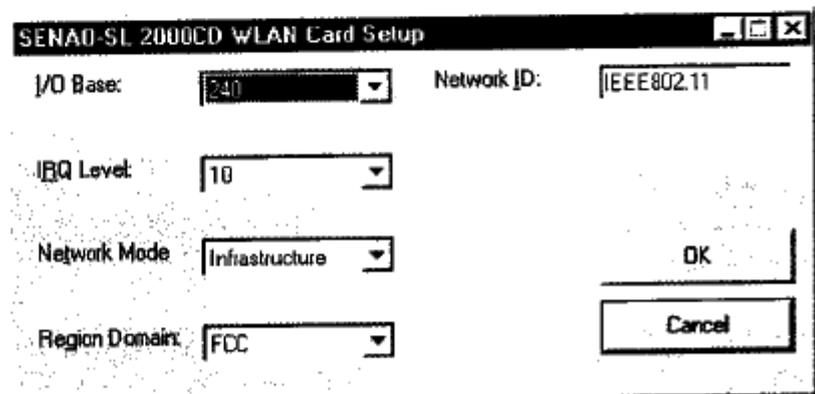

Figure 3-28
8. In the window labeled "SENAO SL-2000CD WLAN Card Setup", you will be asked to select or enter values for the driver parameters I/O base, IRQ Level etc., as shown in Figure 3-28.